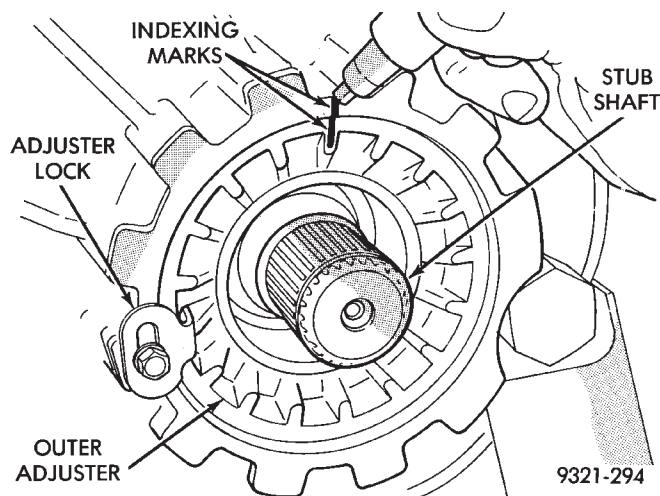

Fig. 62 Indexing Outer Adjuster
(4) Index outer adjuster (Fig. 62). Remove lock bracket and back out adjuster exactly one revolution. Then remove differential cover.